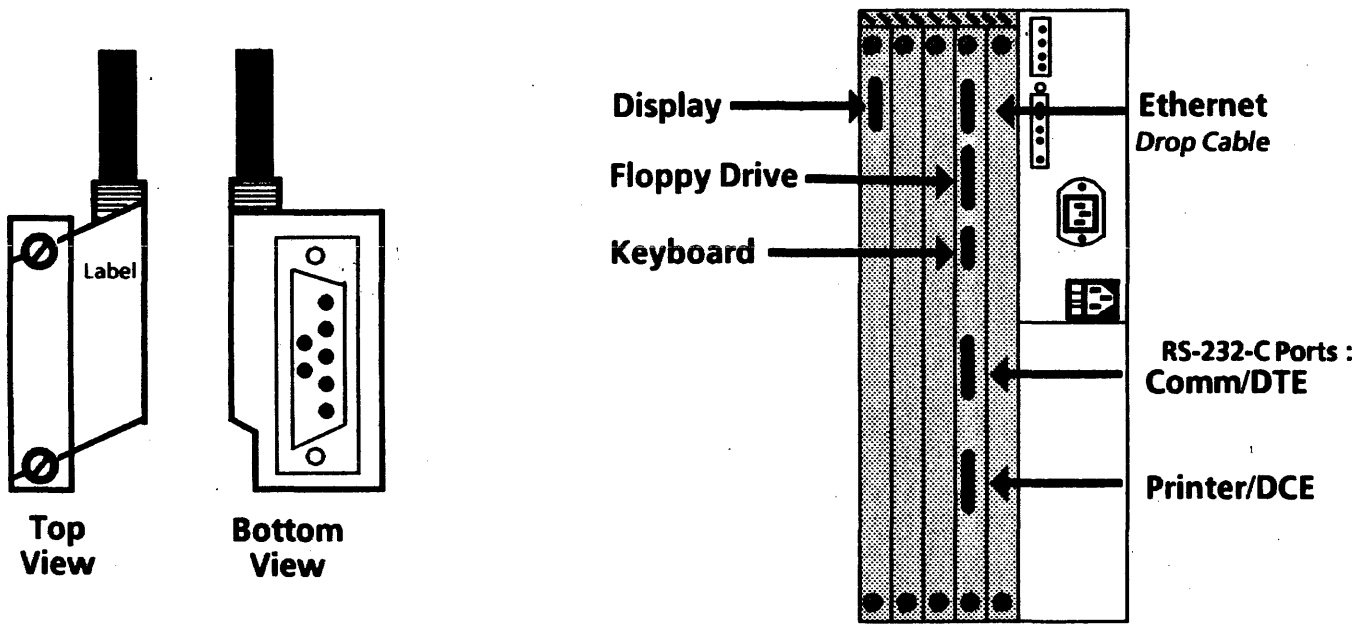

Figure 19. Connector Locations on Processor Unit Circuit Boards
3. Connect the cables to the Processor Unit C1 and C4 circuit boards and tighten the thumbscrews fingertight. (Refer to Figure 19.)